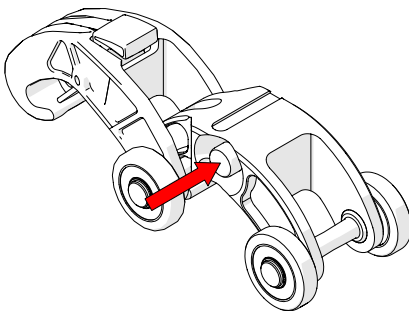

Fig. 59 - Press red button
1. Press the button on the side of the Dovetail QuickLink (Fig. 59).